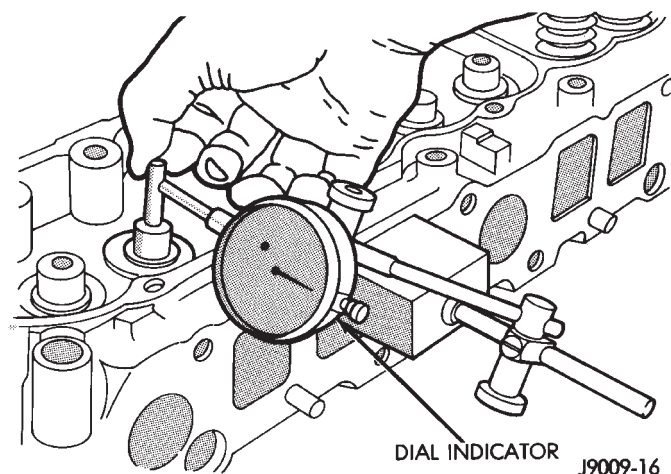

Fig. 67 Measurement of Lateral Movement Of Valve Stem
(1) Use a dial indicator to measure the lateral movement of the valve stem (stem-to-guide clearance). This must be done with the valve installed in its guide and just off the valve seat (Fig. 67).
(2) Correct clearance is 0.025-0.0762 mm (0.001-0.003 inch). If indicated movement exceeds the specification ream the valve guide to accommodate an oversize valve stem.